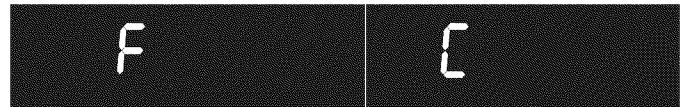

Figure 23: Display showing Fahrenheit and Celsius
2. Once F (or C) appears in the display, press the Up / Down arrow keys to toggle between Fahrenheit and Celsius temperature display modes (See Figure 23).